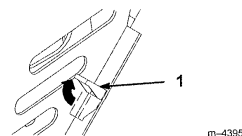

**Figure 17**
3. Release the four locking tabs (Fig. 17).
1. Position the hood over the traction unit frame with the posts on the hood fitting into the holes on the frame (Fig. 17).
2. Secure the hood by pushing the locking tabs forward and down (Fig. 17).